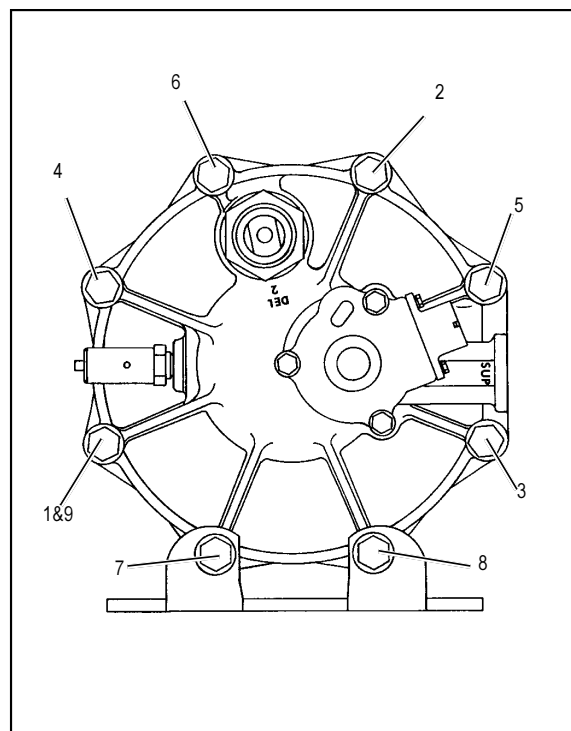

FIGURE 8 - END COVER TO HOUSING TORQUE PATTERN
4. Install the end cover outer housing o-ring (23) on the shoulder in the end cover. Place the housing (24) over the desiccant cartridge and align the holes. Install the six 3/8" cap screws (16), lock nuts (19) and twelve special washers (17) making certain they are in the proper position as marked during disassembly. The two longer 3/8" cap screws (18) will be used to secure the AD-9 to its mounting bracket. Tighten the six cap screws and nuts in a star pattern in a fashion similar to Figure 8; depending on lower bracket location. Torque to 270-385 in. lbs. (Refer to Fig. 8.) **Note:** The two remaining bolt holes in the end cover and two 3/8" cap screws must be the ones marked during disassembly to assure proper orientation of the ports and adequate length of the cap screws.